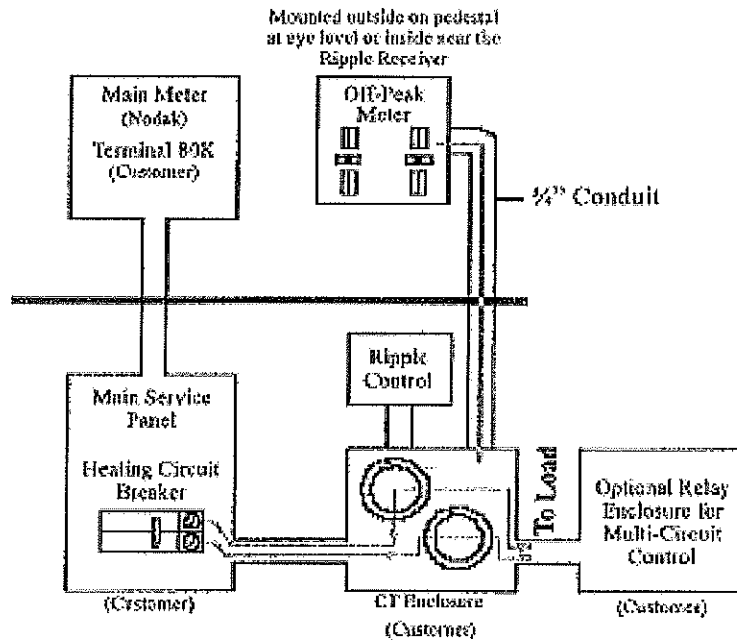

FIGURE 1
- Nodak's metering personnel will install the current transformer and potential transformer leads for direct metered installations (Figure 2) and install the meter. The contractor shall install wiring between the CTs and meter for submetered installations (Figure 1). The wiring connections will be made by Nodak.